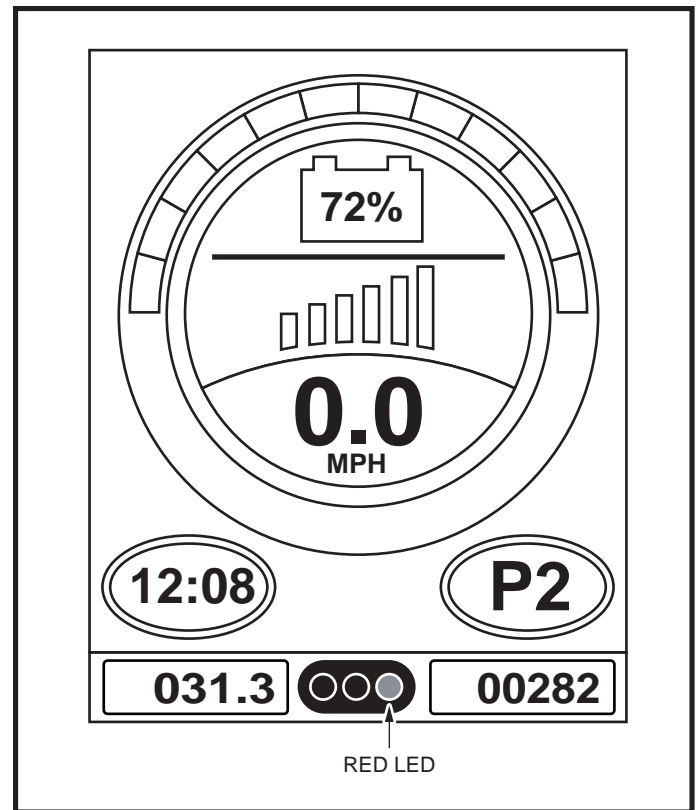

Figure 5. Q-Logic Joystick Display
- The drive status LED is red. **See figure 5.**